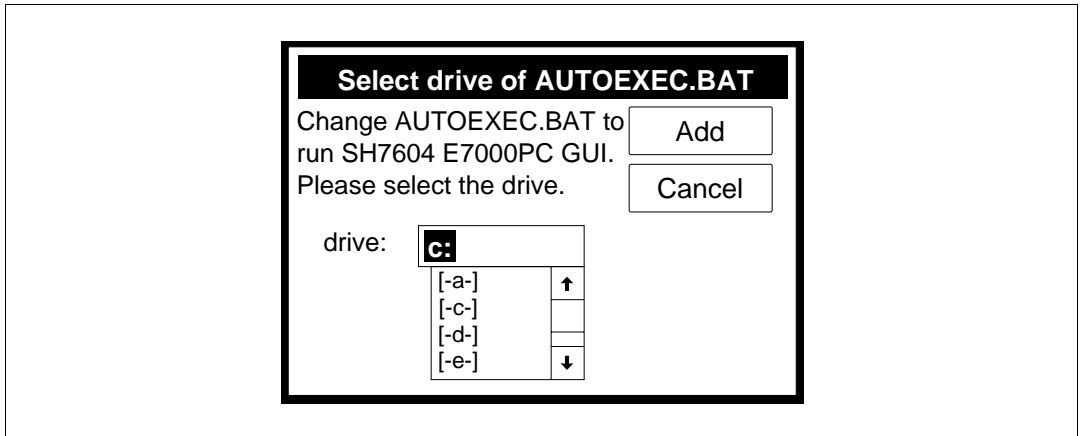

Figure 2-7 AUTOEXEC.BAT File Drive Specification (INSTALL)
- (10) Click the <OK> button; a dialog box is displayed prompting the user to specify the drive storing the AUTOEXEC.BAT file as shown in figure 2-7. Click or input from the keyboard the drive name storing AUTOEXEC.BAT.